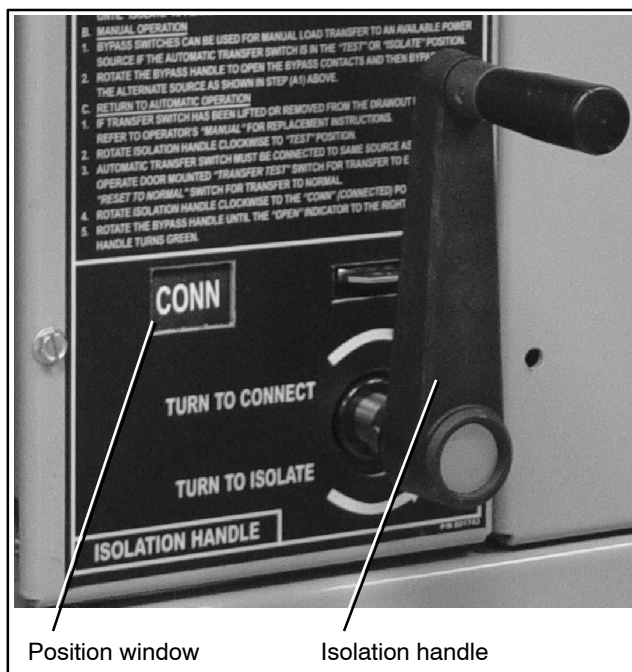

Figure 7-6 Isolation Handle in CONN Position
- The Isolation Handle must be in the CONN (connected) position. Check the position window indicator. See Figure 7-6.